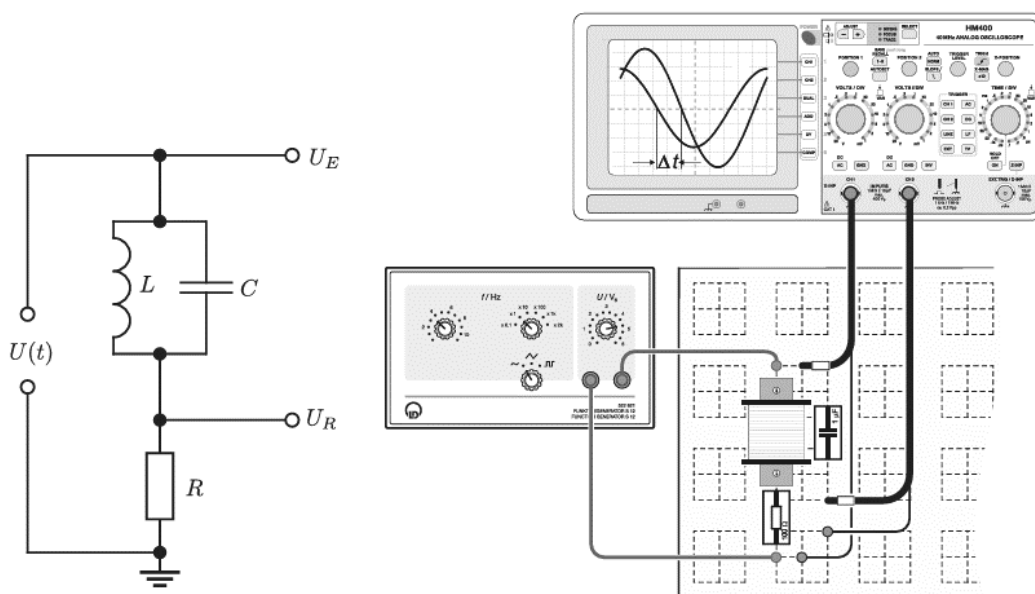

Fig. 37.2. Experimental setup for determining resonant frequency in parallel connection
With a parallel connection, the following applies for the phase shift (φ) (Fig. 37.2):
1. Test apparatus per Fig. 37.2. LC combination per Table 37.2. Resistor $R = 100 \Omega$.